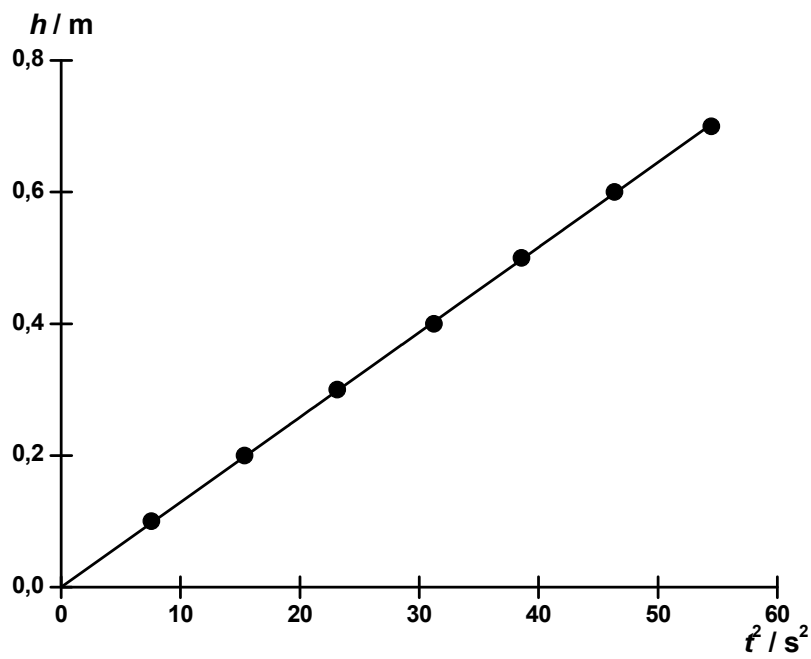

Fig. 2: Graph of h as a function of t^2 .
- Plot the height of the fall h as a function of the fall time t^2 (Fig. 2). The following equation predicts that this should be a linear relationship: